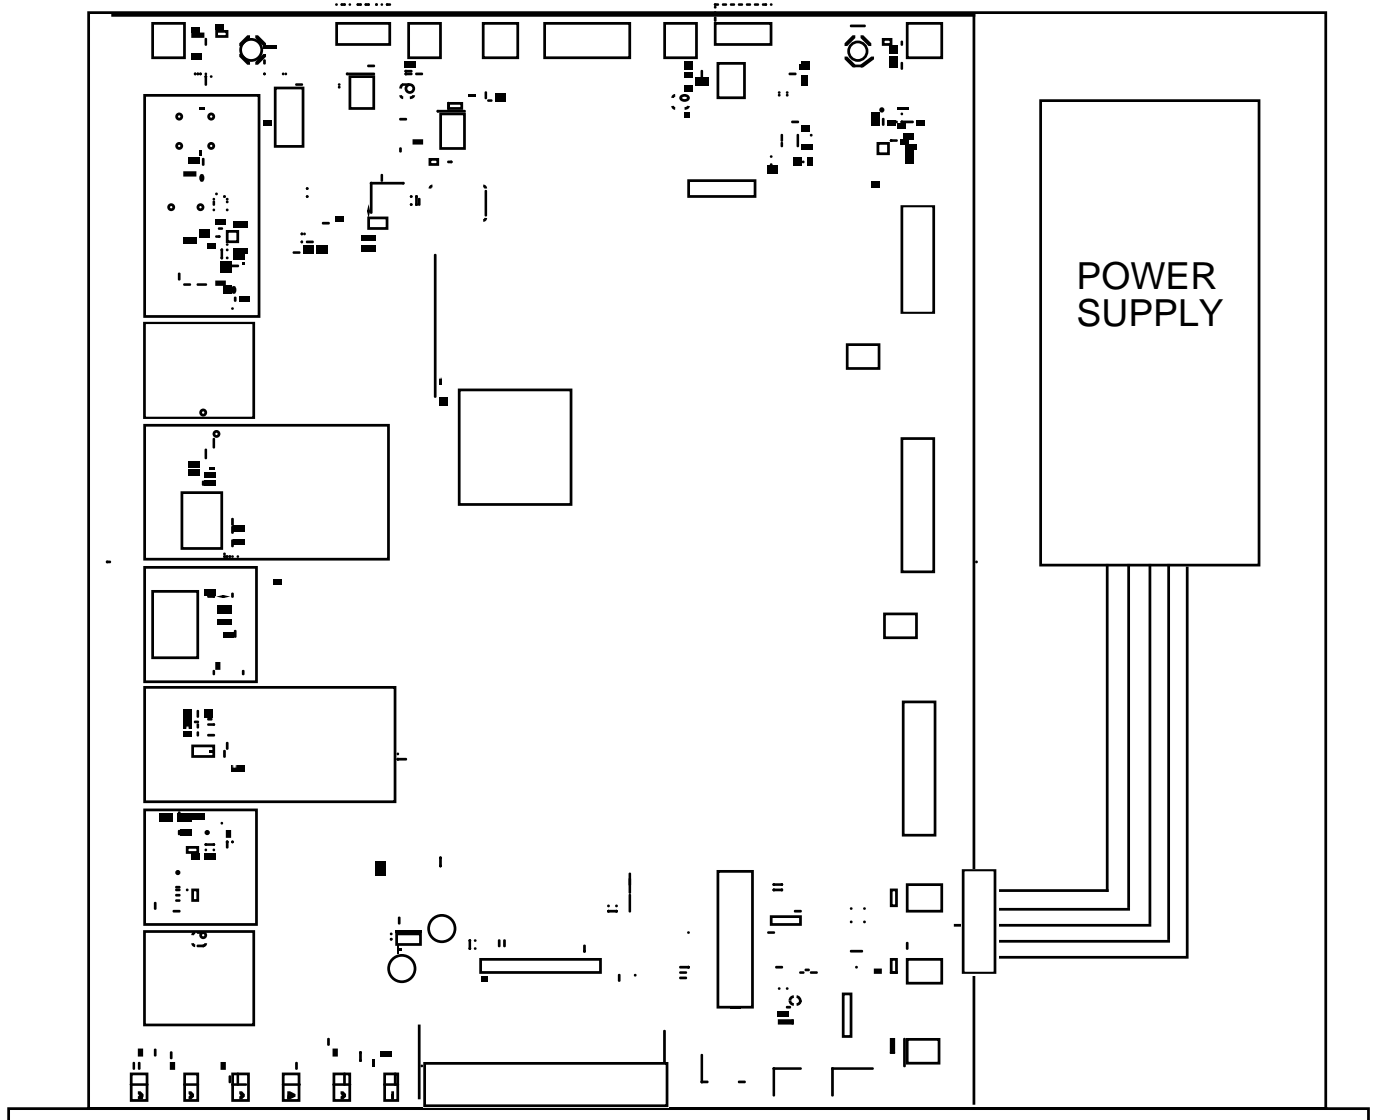

FIGURE 2.1 2083-1310 Mechanical Assembly
2.1 Mechanical - The 2083-1310 consists of one RF/Controller PCB housed in a 1 RU (1 3/4 inch high) by 16 inch deep chassis. A switching, ± 12 , +24, +5 VDC power supply provides power for the assemblies. The 2083-1310 can be secured to a rack using the 4 holes on the front panel. Figure 2.1 shows how the 2083-1310 is assembled.